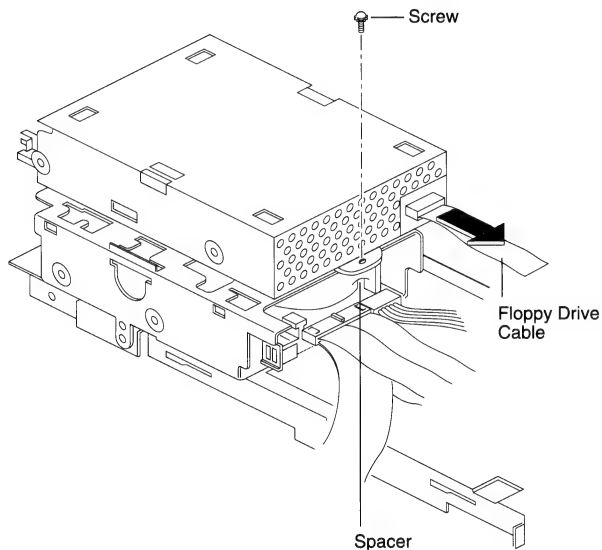

Figure 9 Floppy Drive
- Disconnect the floppy drive cable from the floppy drive (see Figure 9).
- Remove the floppy drive mounting screw and spacer (see Figure 9).